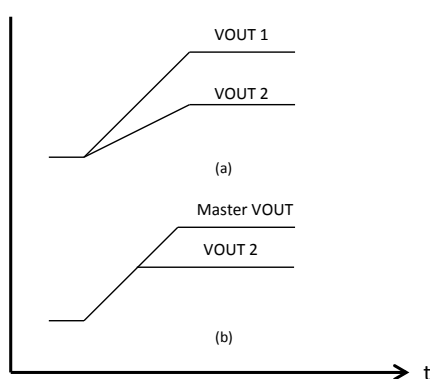

Figure 5 - PI33XX tracking methods
There is typically either proportional or direct tracking implemented within a design. For proportional tracking between several regulators at startup, simply connect all devices TRK pins together. This type of tracking will force all connected regulators to startup and reach regulation at the same time (see Figure 5 (a)).
All connected regulators' soft-start slopes will track with this method. Direct tracking timing is demonstrated in Figure 5 (b). All tracking regulators should have their Enable (EN) pins connected together to work properly.